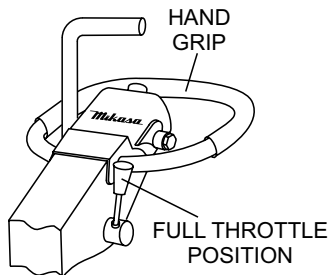

Figure 18. Throttle Lever (Fast)
1. Grasp the compactor's hand grip, and move the engine throttle lever (Figure 18) quickly to the fast position.